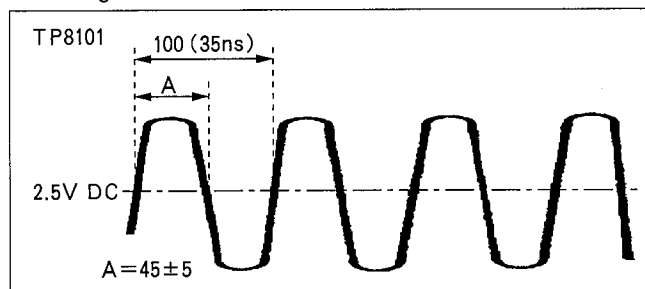

Figure E36
2. Adjust VR8101 so that the waveform becomes as shown in Figure E36.
2. Adjust VR8301 so that the waveform becomes as shown in Figure E36.